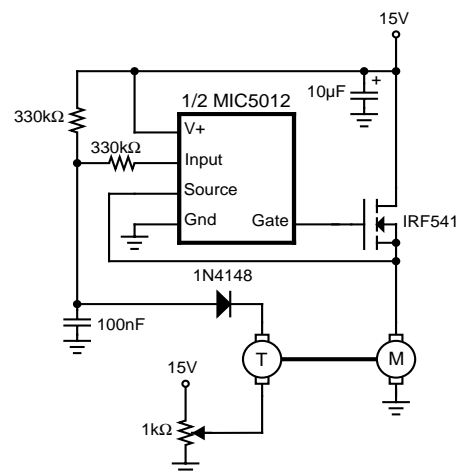

Figure 9. Electronic Governor
**Electronic Governor** (Figure 9). The output of an ac tachometer can be used to form a PWM loop to maintain the speed of a motor. The tachometer output is rectified, partially filtered, and fed back to the input of the MIC5012. When the motor is stalled there is no tachometer output, and MIC5012 input is pulled high delivering full power to the motor. If the motor spins fast enough, the tachometer output is sufficient to pull the MIC5012 input low, shutting the output off. Since the rectified waveform is only partially filtered, the input oscillates around its threshold causing the MIC5012 to switch on and off at the frequency of the tachometer signal. A PWM action results since the average dc voltage at the input decreases as the motor spins faster. The 1kΩ potentiometer is used to set the running speed of the motor. Loop gain (and speed regulation) is increased by increasing the value of the 100nF filter capacitor.